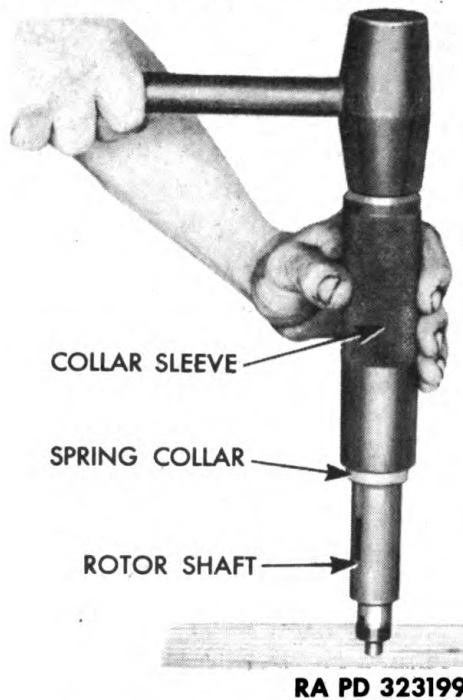

Figure 203 — Installing Sealing Ring Spring Collar on Rotor Shaft
(4) **INSTALL SEALING RING SPRING COLLAR** (fig. 203). Install collar with collar sleeve, making sure to drive collar solidly against shoulder of rotor shaft.